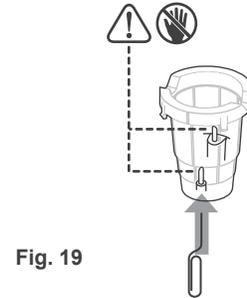

Fig. 19
3. If the two bottom Needles are clogged, then use a paper clip or tooth brush to clean the Needles, and rinse with warm water. (Fig. 19)
**CAUTION:** There is a sharp Needle underneath the Cover and two sharp Needles inside the Red Cup Holder. To avoid risk of injury and do not put your fingers in the Red Cup Holder. (Fig. 19)